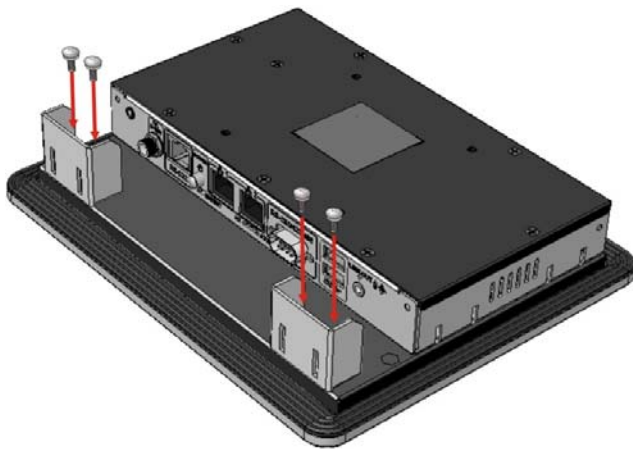

Figure 3-22: PPC-F08B-BT Mounting Bracket Installation
Step 1: Install two mounting brackets onto the rear panel (**Figure 3-22**).